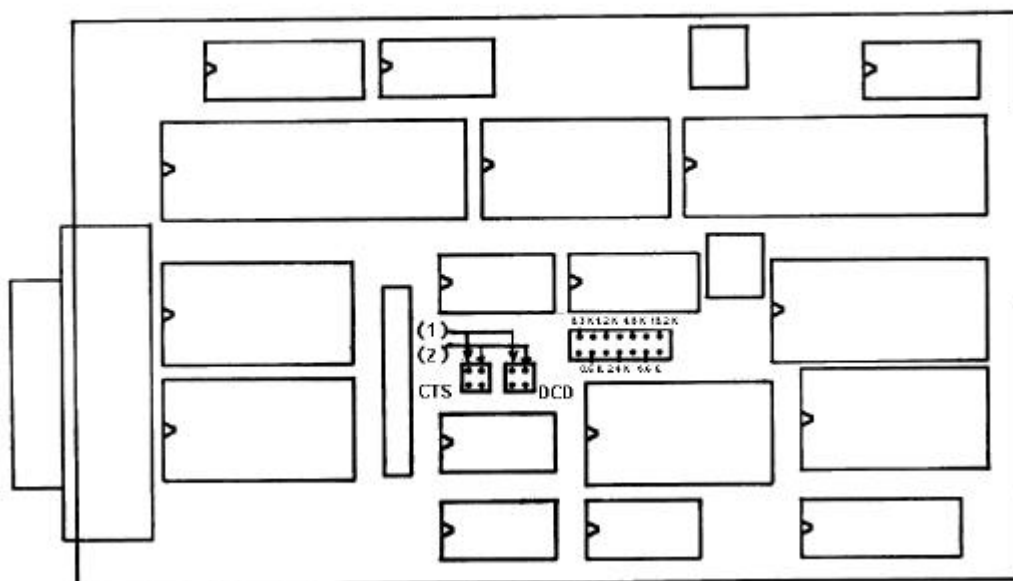

Fig. 6
- Chose the required baud rate by moving the jumper to the desired position (see Fig. 6).